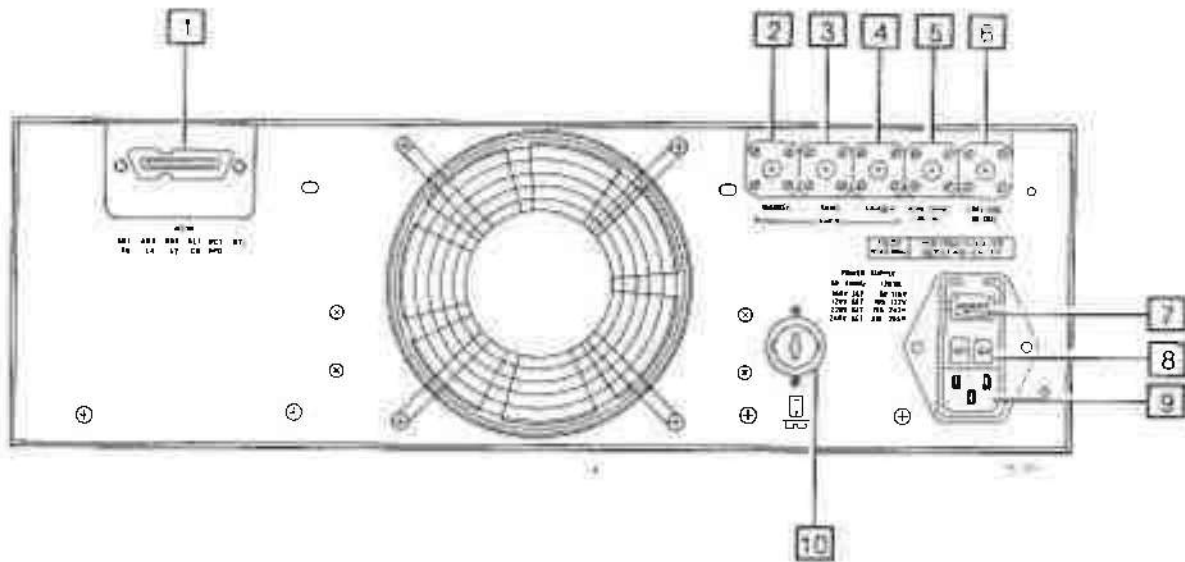

Fig. 2 2031 rear panel
4. The following facilities are available at the rear panel, see Fig. 2.